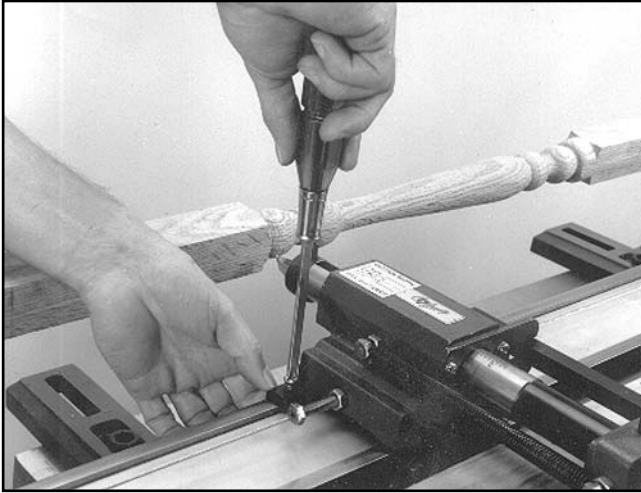

Figure 14. Adjusting positive stops.
7. Move the carriage stylus to the left hand limit of the profiled area and adjust the left hand stop until it is in contact with the carriage. **See Figure 14.** Tighten the stop with a Phillips® head screwdriver.